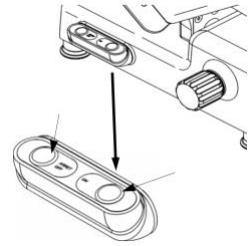

Fig. 17
- Press the white switch button "ON" (I) and then the black switch button STOP "OFF" (O) (fig. 17);